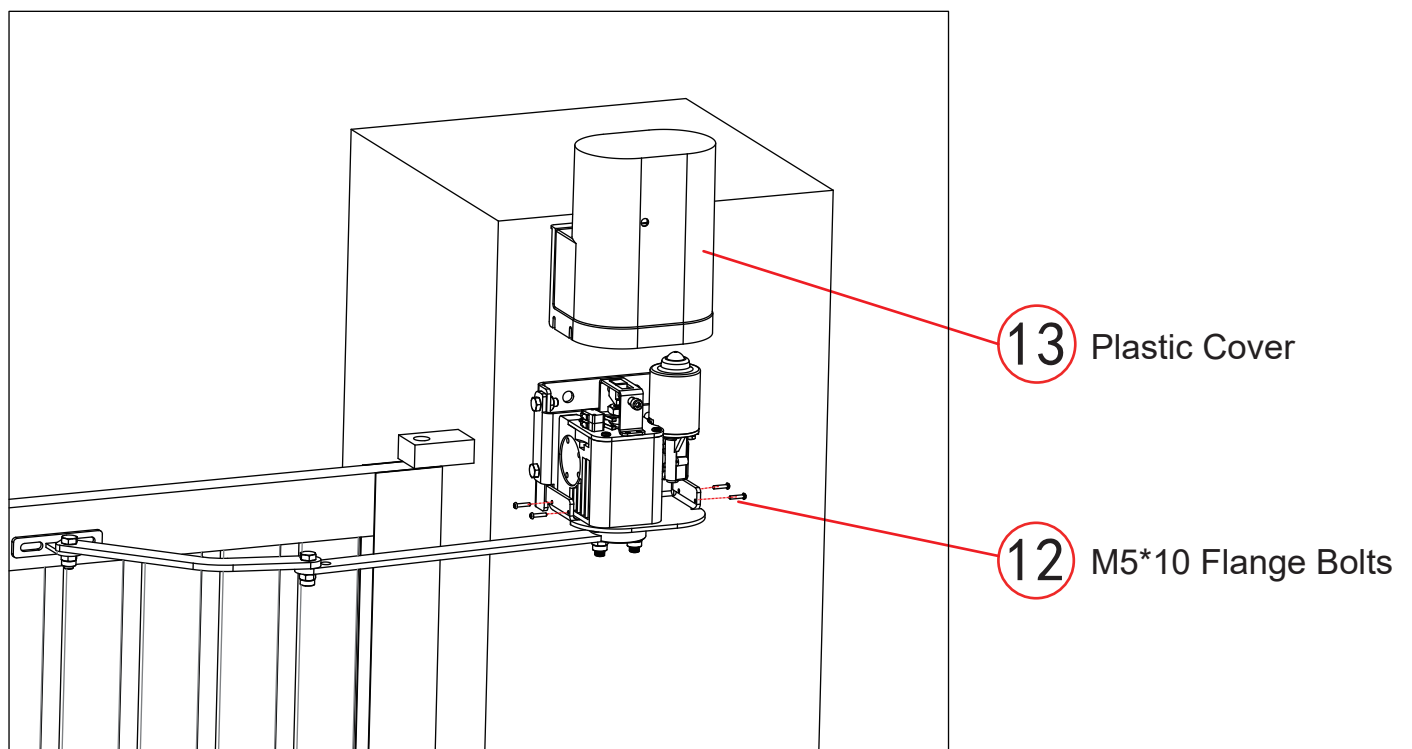

Figure 6
6. Put ⑬ the plastic cover on the machine and fix the ⑫ M5*10 flange bolts well for cover. Refer to Figure 6.